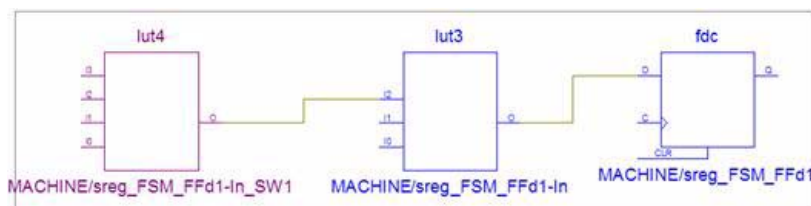

Figure 4-9: Example Schematic
1. Select the **I2** pin of the **lut3** primitive and choose **Show Next Drive (Output) Pin** from the context menu to see its driver. You will get the following schematic as shown in Figure 4-9: